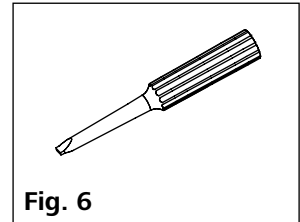

Fig. 6
- Screwdriver (use for safety circuit) see Fig. 6